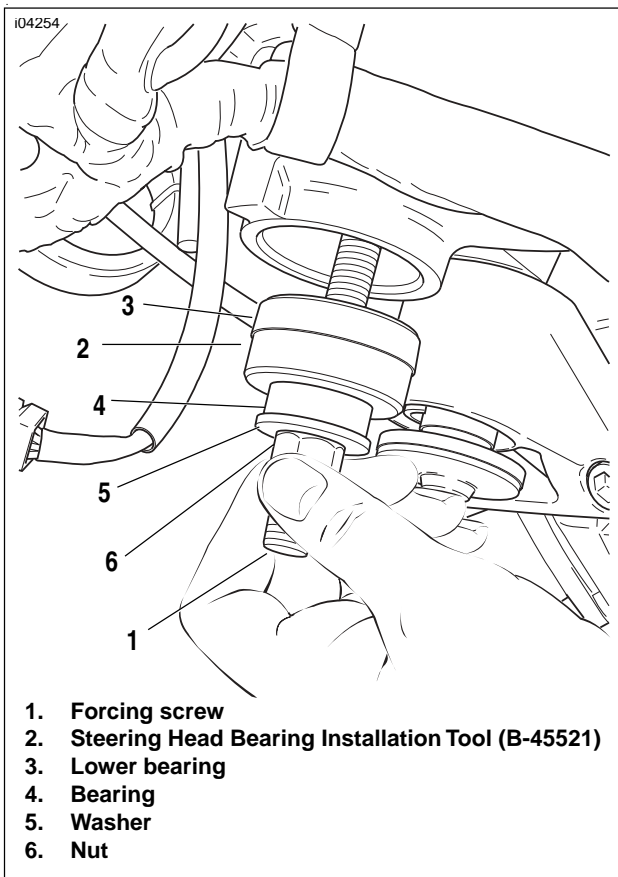

Figure 2-73. Lower Bearing
- See Figure 2-73. Sparingly apply Extreme Pressure Lubricant (J-23444-A) to the threads of the forcing screw (1) from the Steering Head Bearing Race Installer (HD-39302), to prolong service life and ensure smooth operation. Insert the forcing screw (1) through the Steering Head Bearing Installation Tool (B-45521) (2).